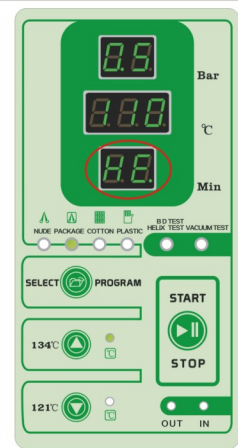

Fig.7.4-6
(9)***third times Heating stage:*** When the end of the vacuum pump to work 3 minutes,the control system will open water pump solenoid valve(Ev2) and steam generator start inject the steam into chamber,temperature display window show high temperature and up.pressure display window show high pressure and up.operation display window show “HE” .when temperature in chamber up to 134℃ ,start sterilization.(Fig.7.4-6)
- (3)**First times Heating stage:** When the end of the vacuum pump to work 4 minutes,the control system will open water pump solenoid valve(Ev2) and steam generator start inject the steam into chamber,temperature display window show high temperature and up.pressure display window show high pressure and up.operation display window show “HE” .(Fig.7.4-6)
- (5)**Second times Heating stage:**when the pressure down to 0.0bar,the control system will open water pump solenoid valve(Ev2) and steam generator start inject the steam into chamber,temperature display window show high temperature and up.pressure display window show high pressure and up.operation display window show “HE” .when temperature in chamber up to 134°C(134°C sterilization program) or 121°C(121°C sterilization program),start sterilization.the next step to (10).(Fig.7.4-6)